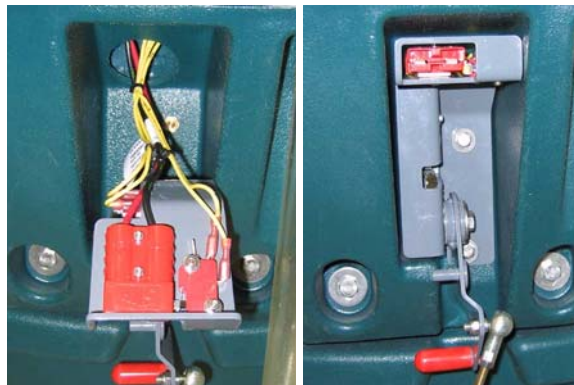

Fig. 14
14. Replace the squeegee lift bracket (Fig. 14).